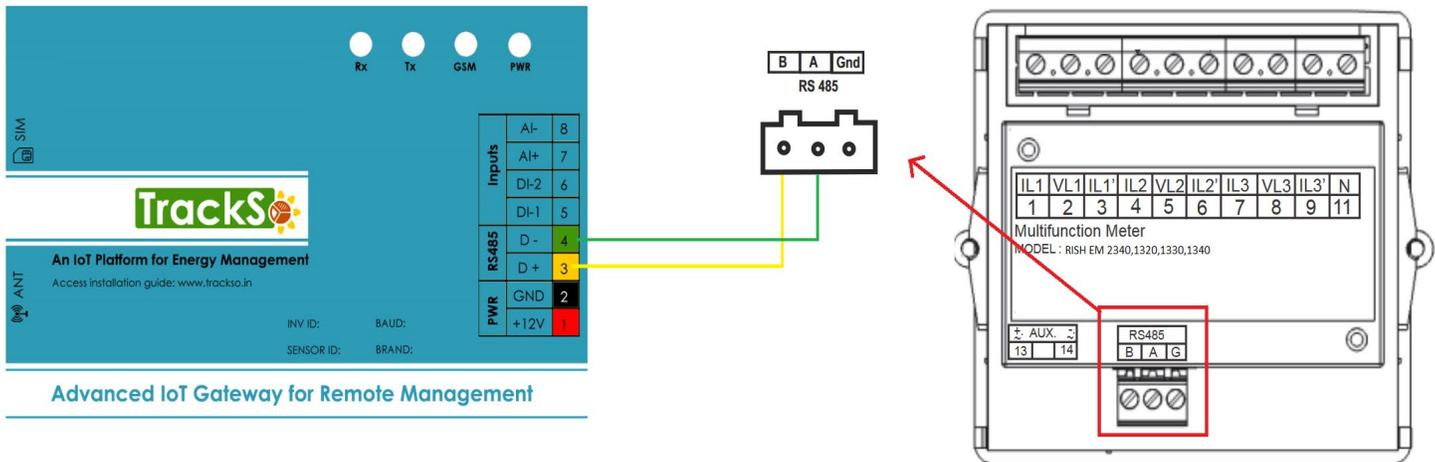

Figure R1 – Rear view of Rishabh Meter
1. Please unscrew the RS485 terminal as shown in *Figure R1*.